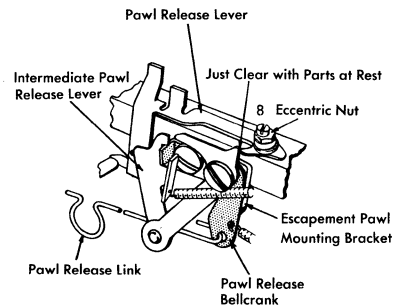

Figure 26. Pawl Release Adjustment
8. Adjust the pawl release lever eccentric so that the ear of the pawl release lever just clears the intermediate pawl release lever when the parts are at rest (Figure 26). Keep the high point of the eccentric toward the front of the machine.